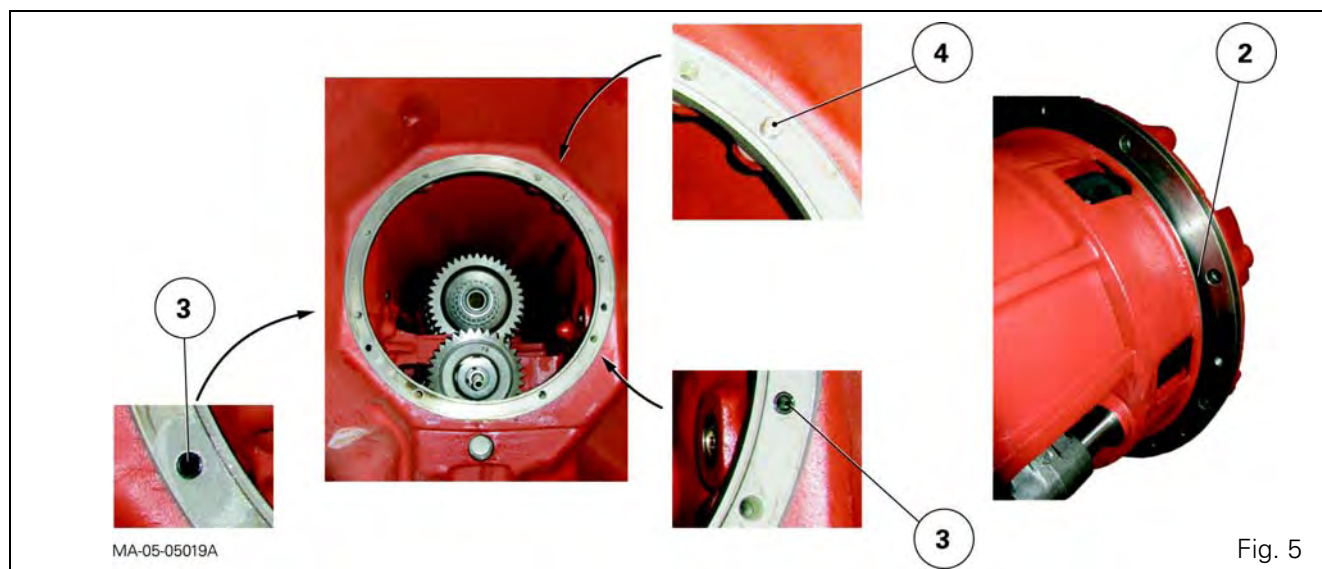

Fig. 5
11. Discard the "O" rings (2) and (3) (Fig. 5).
12. Recover the cup (64) (Fig. 6) and the dowel (4) (Fig. 5).
15. Fit the gearbox and input unit with new "O" rings (2) and (3).
Position the dowel (4) (Fig. 5).